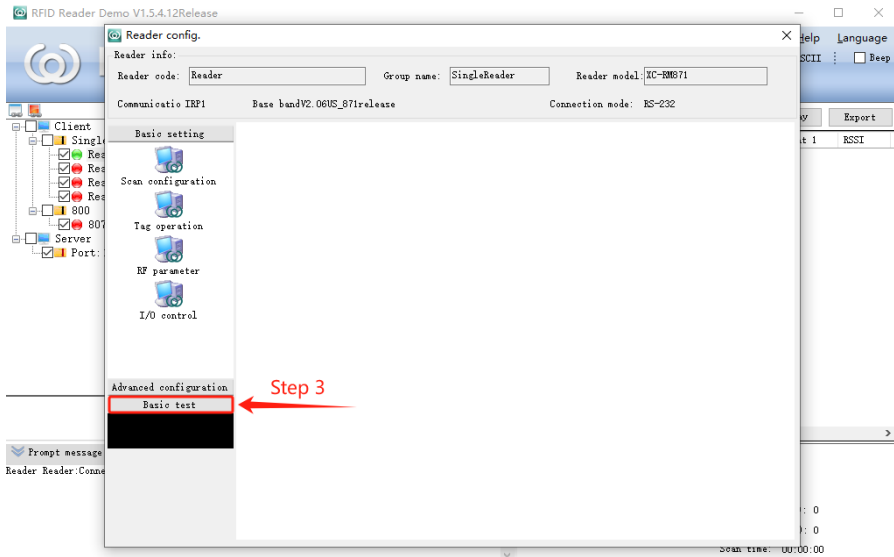

Figure 5-15 Write Tags Diagram 3
- 3) As shown in Figure 5-15, click “Basic test”;